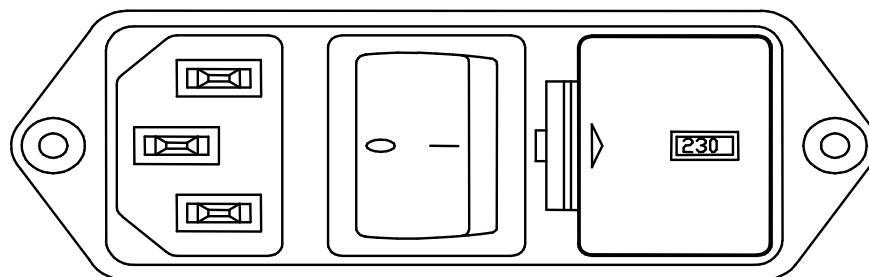

Figure 3 “Power Module”
On the left panel (right, in the back view!) there is the slot (32) on which the power module (see Figure 3 “Power Module”) is installed.
To inspect and/or replace the fuses, **disconnect the mains cable first!** Insert a miniature screwdriver in the slot indentation, see Figure 3 “Power Module”, and snap out the slide which houses the fuses.